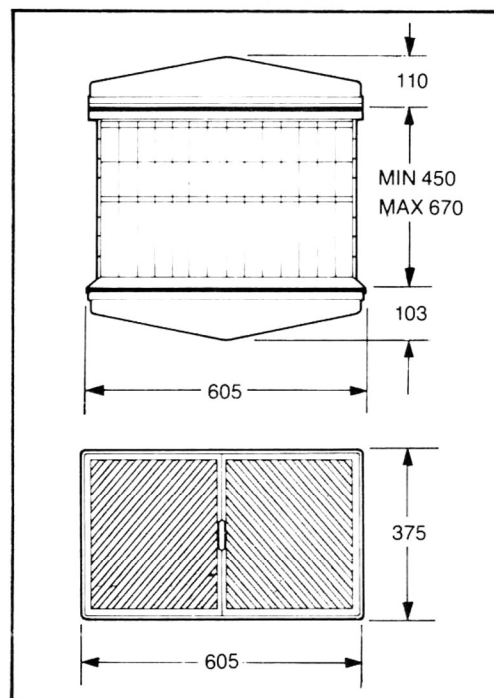

Fig. 1
1. Check the components supplied against the parts list (see Fig. 1).